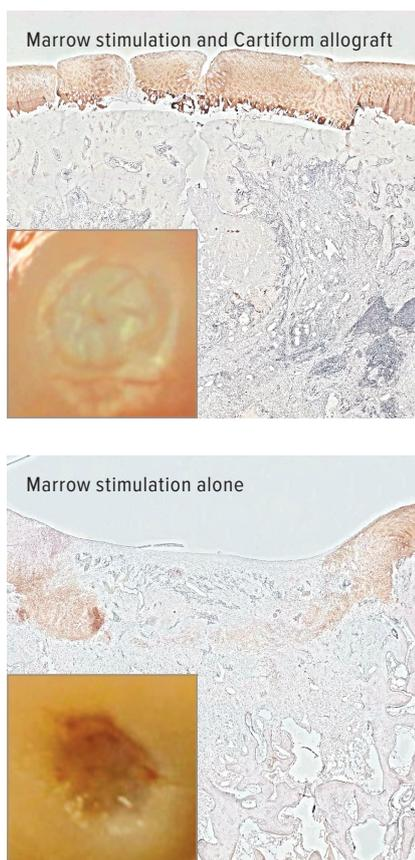

Figure 4. Gross morphology and type II collagen staining of cartilage defect 3 months postsurgery
- At 3 months, the lesions treated with Cartiform allograft had significantly improved gross morphology and overall lesion fill compared to microfracture controls (Figure 4).